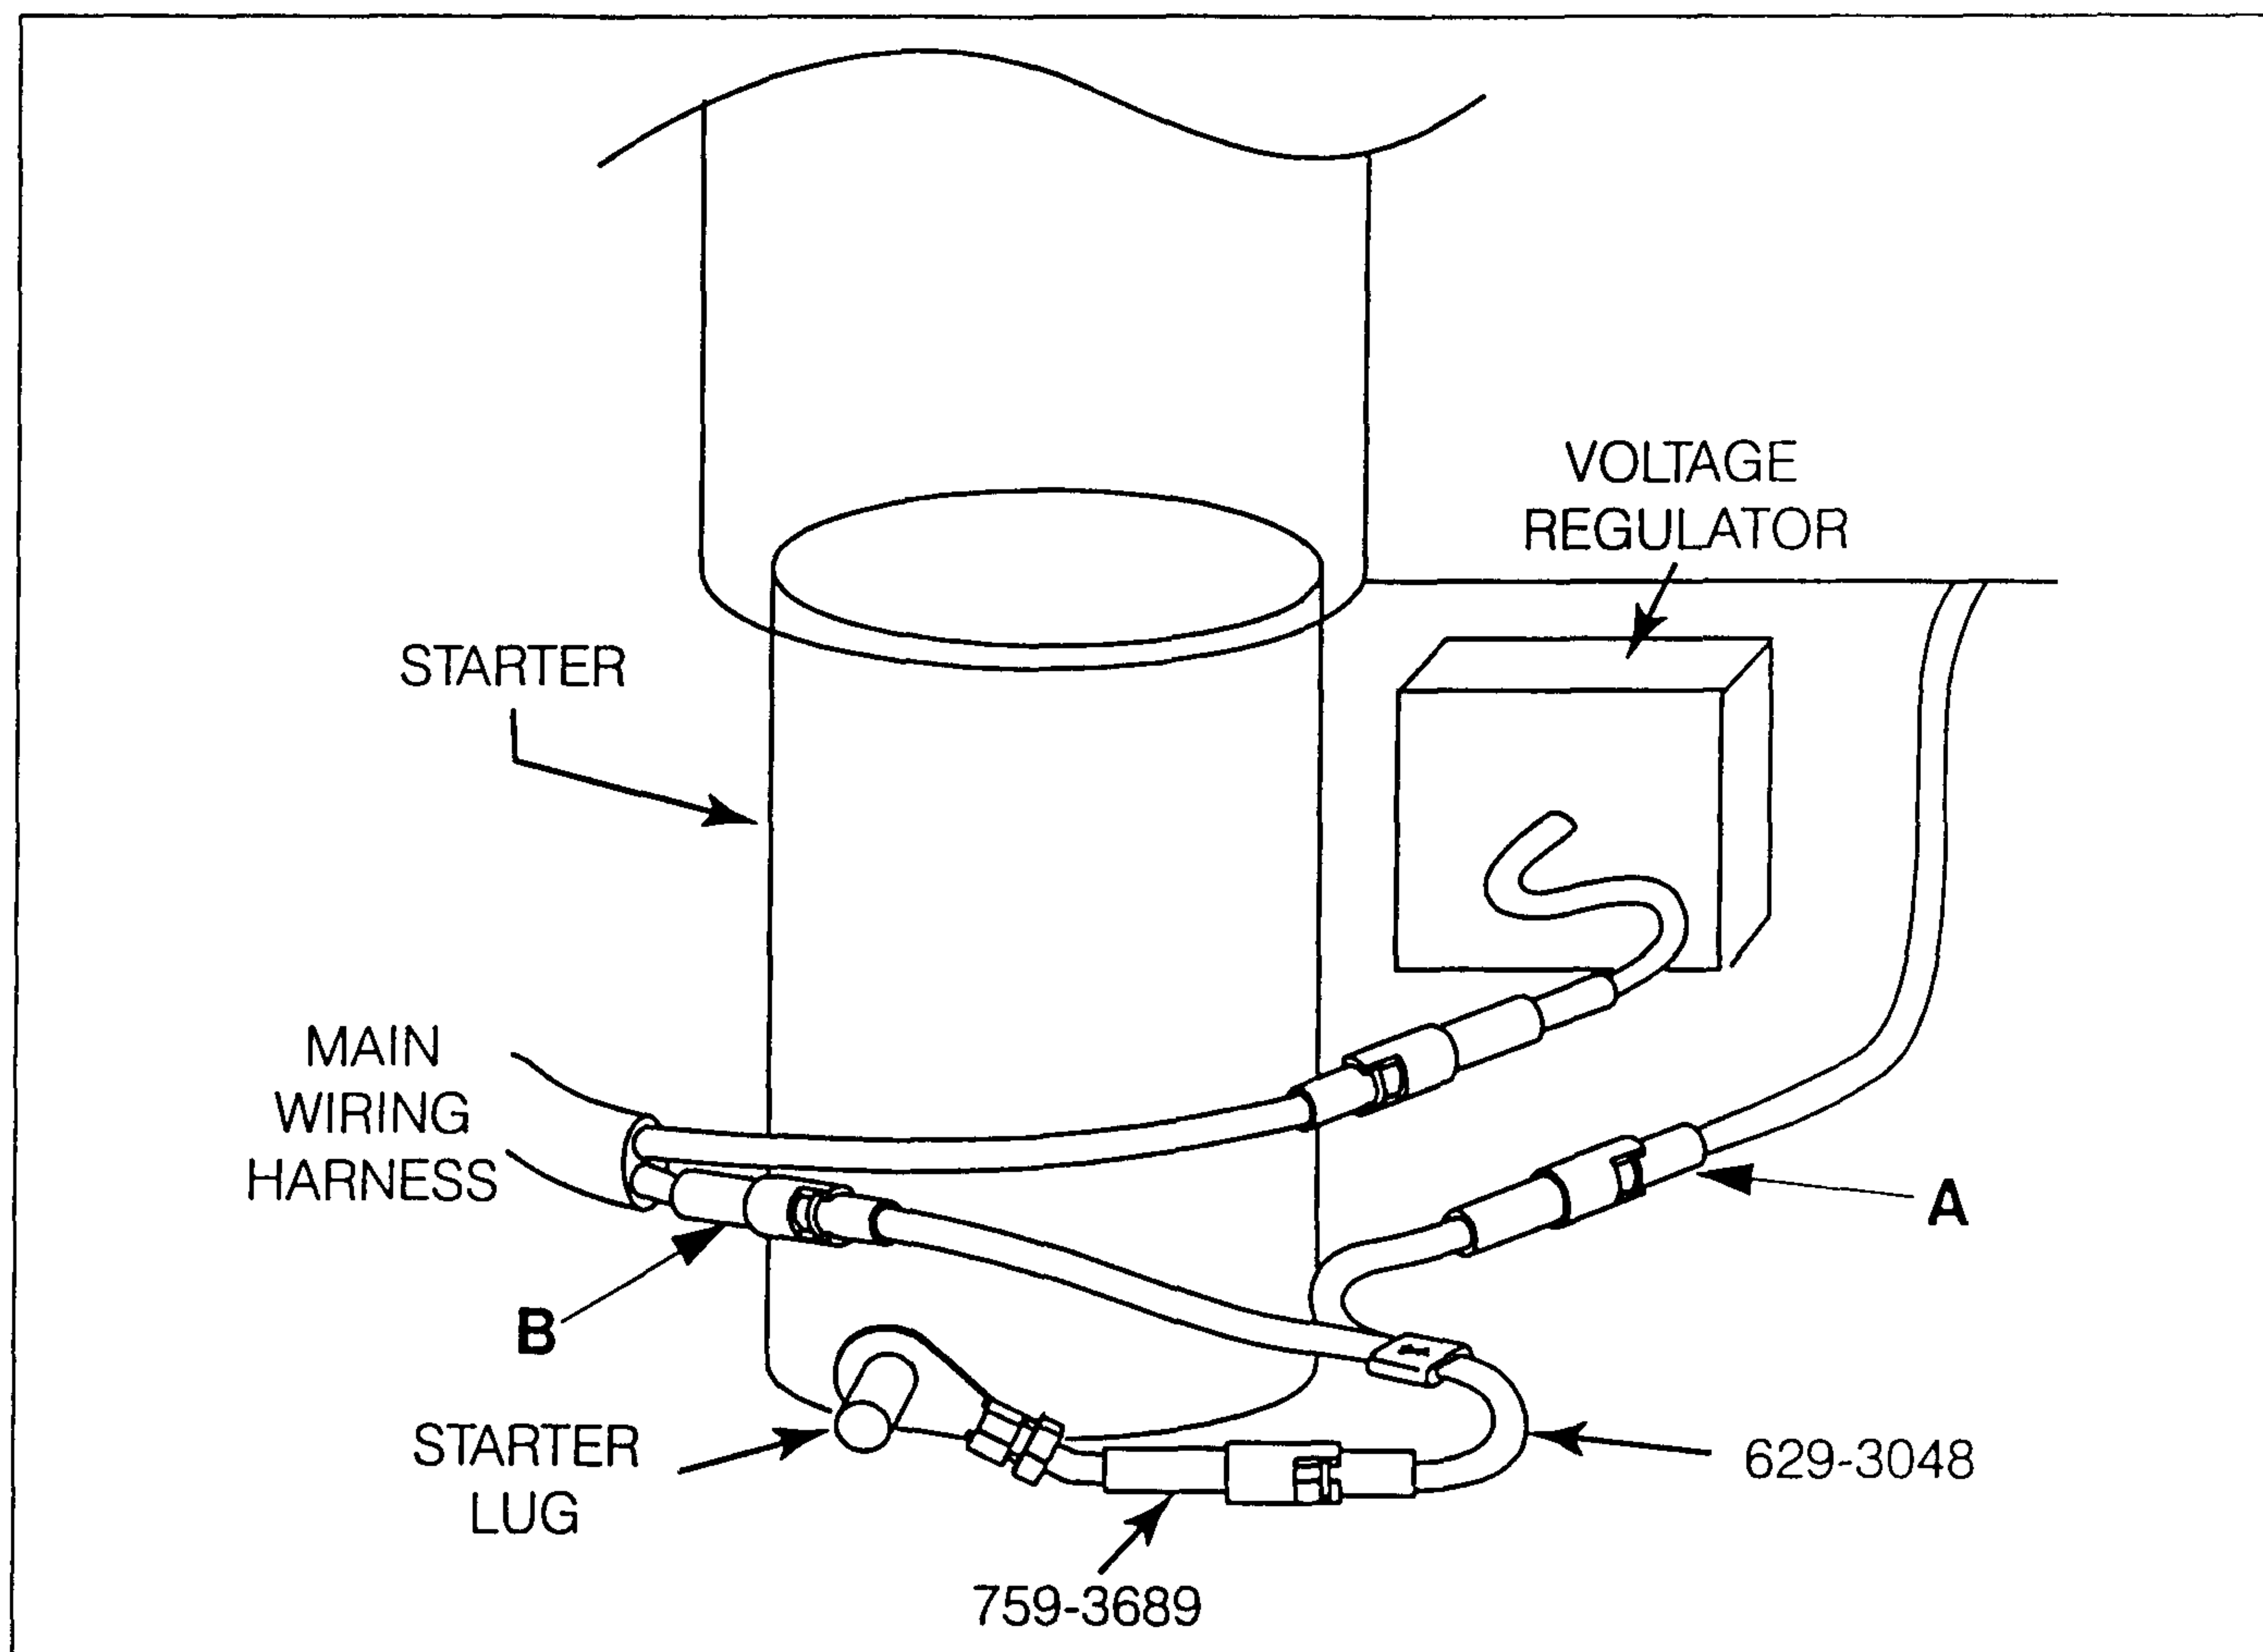

Figure 4
- 2 Slip ring terminal of 759-3689 diode assembly over starter lug See Figure 4
- 4 Disconnect wire **A** from wire **B** See Figure 4
- 5 Plug 629-3048 wiring harness adapter into loose connections See Figure 4